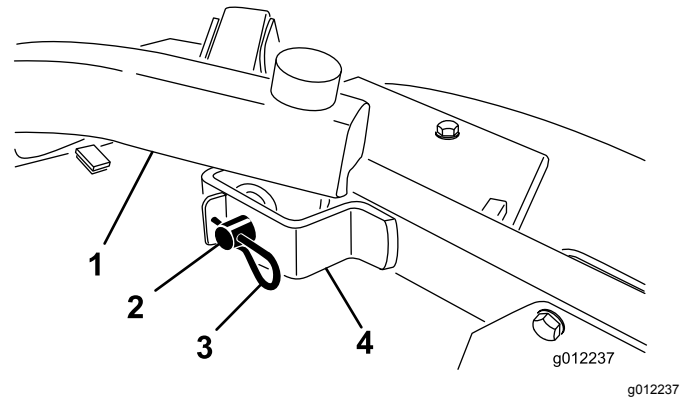

Figure 24
4. Remove the hairpin cottes and clevis pins securing the lift arms to the castor arm brackets (Figure 24).